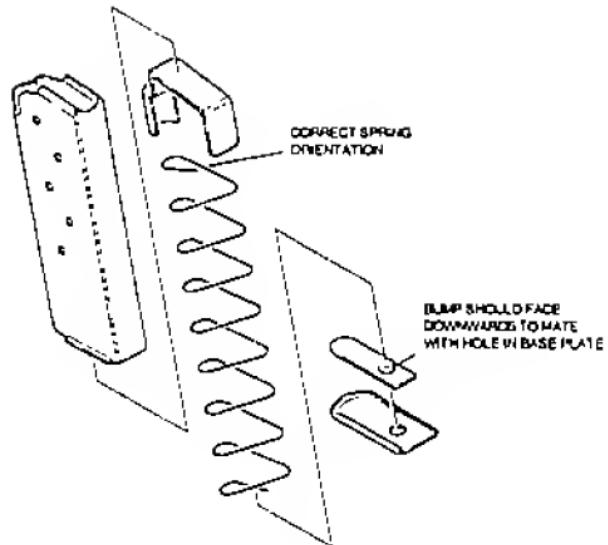

FIGURE 16—EXPLODED VIEW OF 9MM MAGAZINE
**To assemble the magazine,** place the follower inside the bottom of the magazine tube, making sure the radius end of the follower is aligned with the magazine tube radius (See Figure 16). Allow the follower to slide into the tube